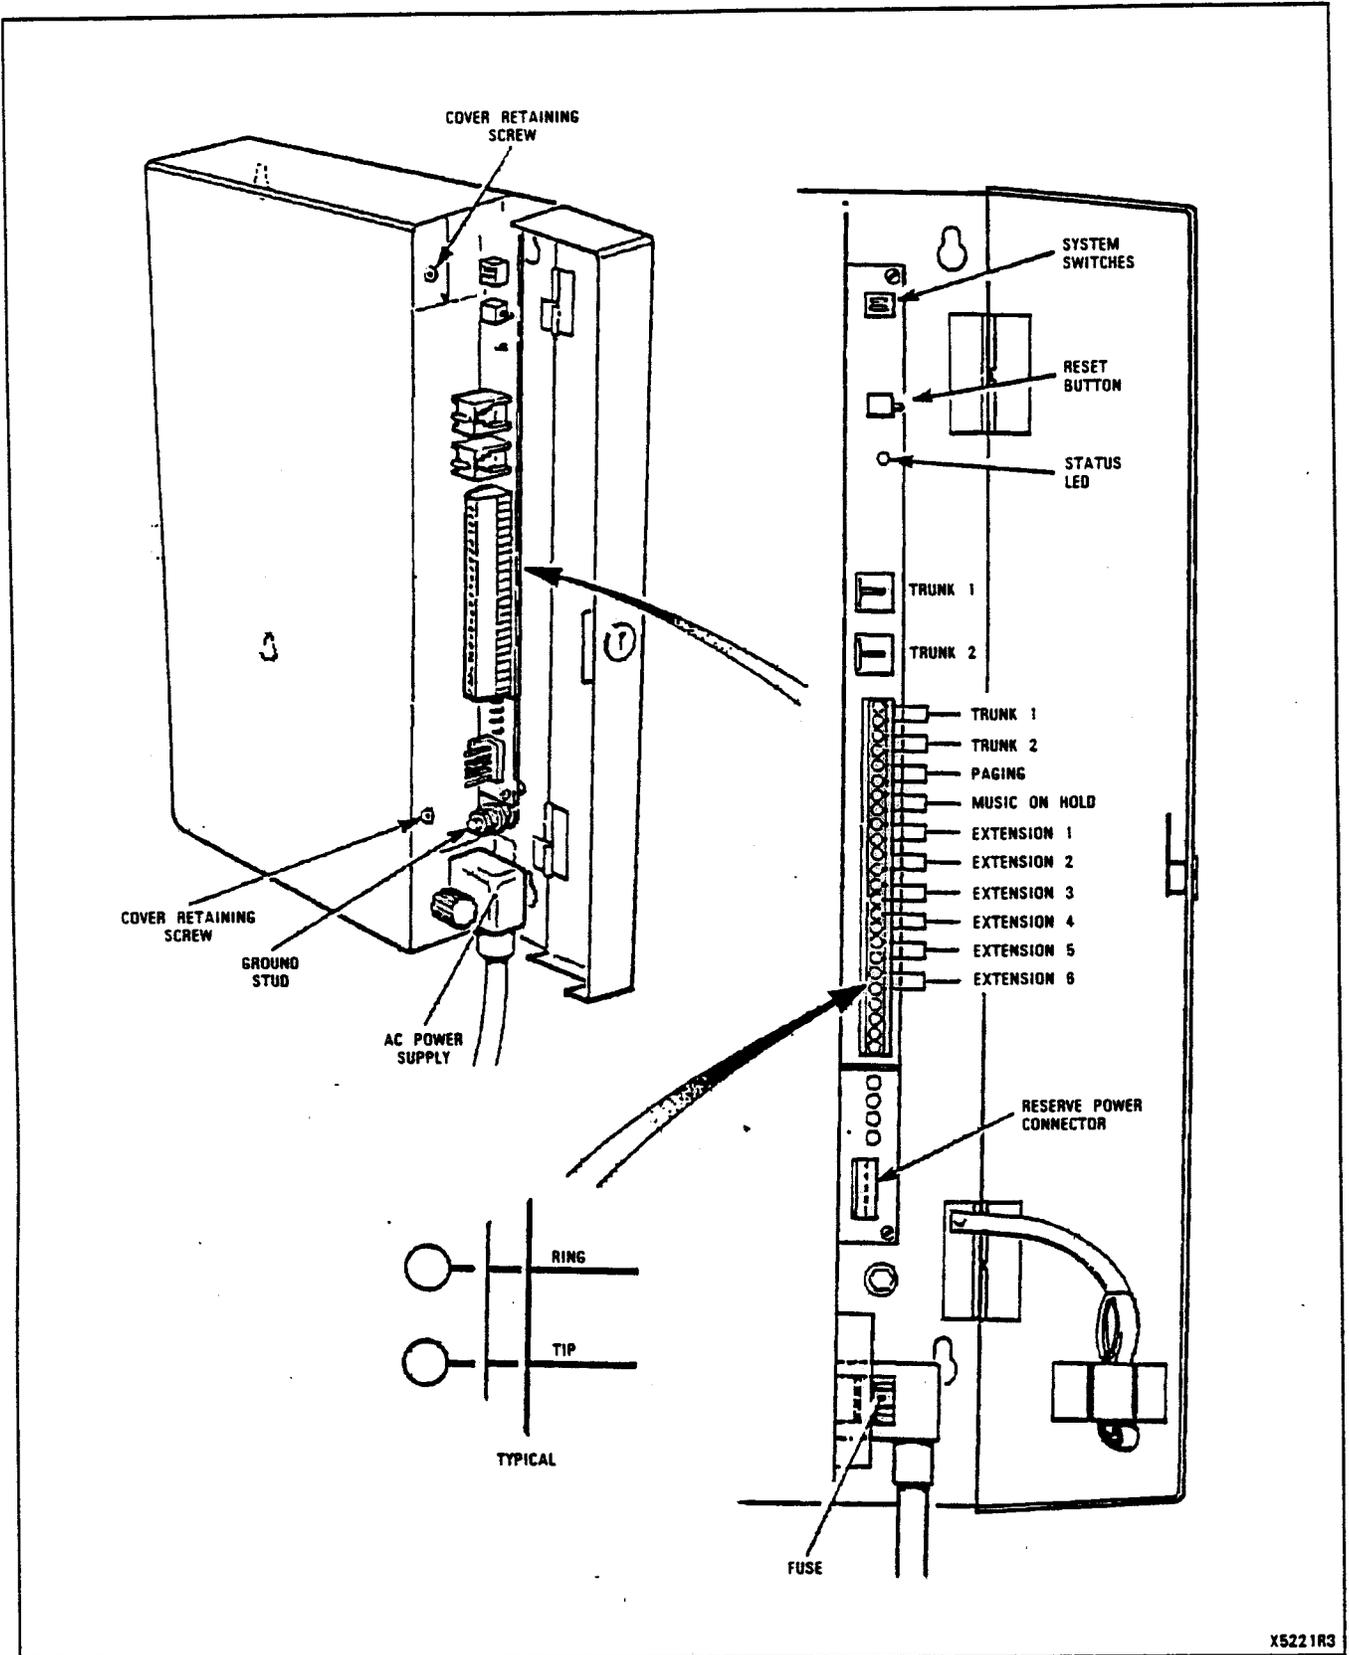

Fig. 3-1 SX-5 Equipment Cabinet
3.04 Level 2 Entry is accomplished by opening the access door, removing the two cover-retaining screws, located at the top and bottom of the internal blanking plate (refer to Fig. 3-1), and lifting the hinged cover. Level 2 Entry allows access to: